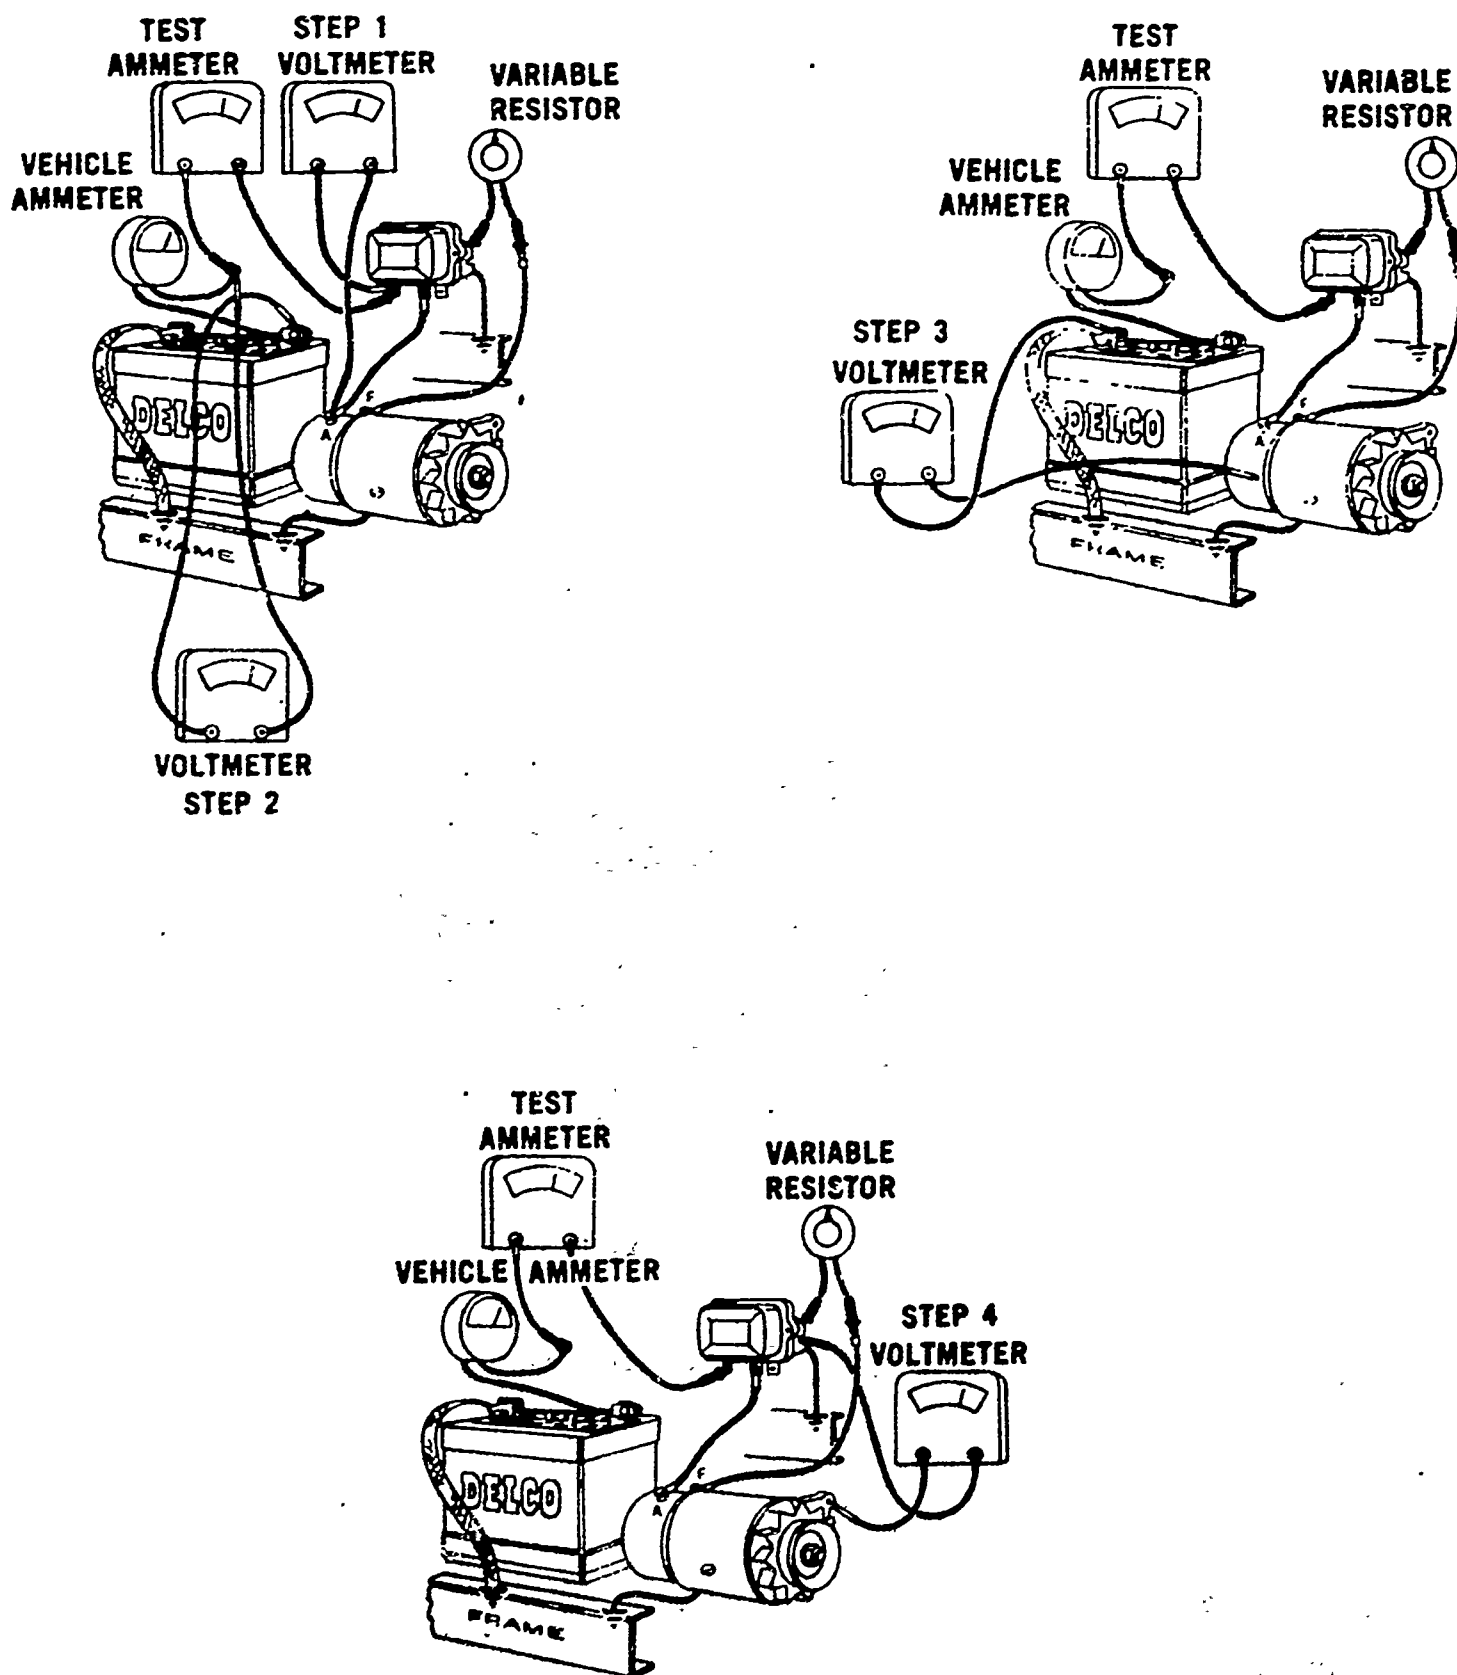

Fig. 4 Voltage drop checks
6. Measure the voltage drops with the voltmeter in the position shown in Step 1 and Step 2 of Figure 4. The combined readings of Step 1 plus Step 2 should not exceed six-tenths or seven-tenths volt. If the voltage drop exceeds this limit, excessive resistance is indicated somewhere between the generator and the battery portion of the charging circuit (the cutout relay points are in a portion of this circuit).
7. Measure the voltage drop with the voltmeter in the position shown in Step 3 of Figure 4. The reading of Step 3 should not exceed two-tenths volt. If the voltage drop exceeds this limit, excessive resistance is indicated between the battery and generator return portion of the charging circuit.
8. Stop engine, turn on all lights and accessory loads (approximately 20 amperes). Measure voltage drop with the voltmeter in position shown in Step 4 of Figure 4. The reading of Step 4 should not exceed one-tenth volt. If the voltage drop exceeds this limit, excessive resistance is indicated between the body and frame of the vehicle, or between the frame and vehicle engine.